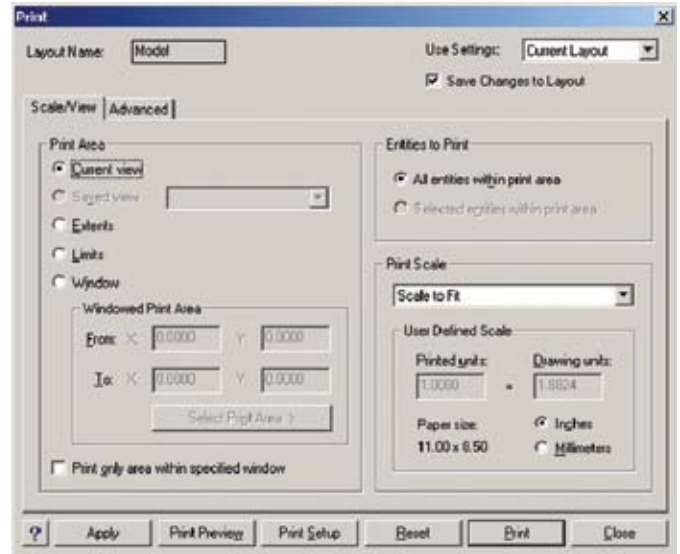

Figure 1.6
10. **Pick the settings** to match the Print dialog box shown in Figure 1.6; **then pick Apply**